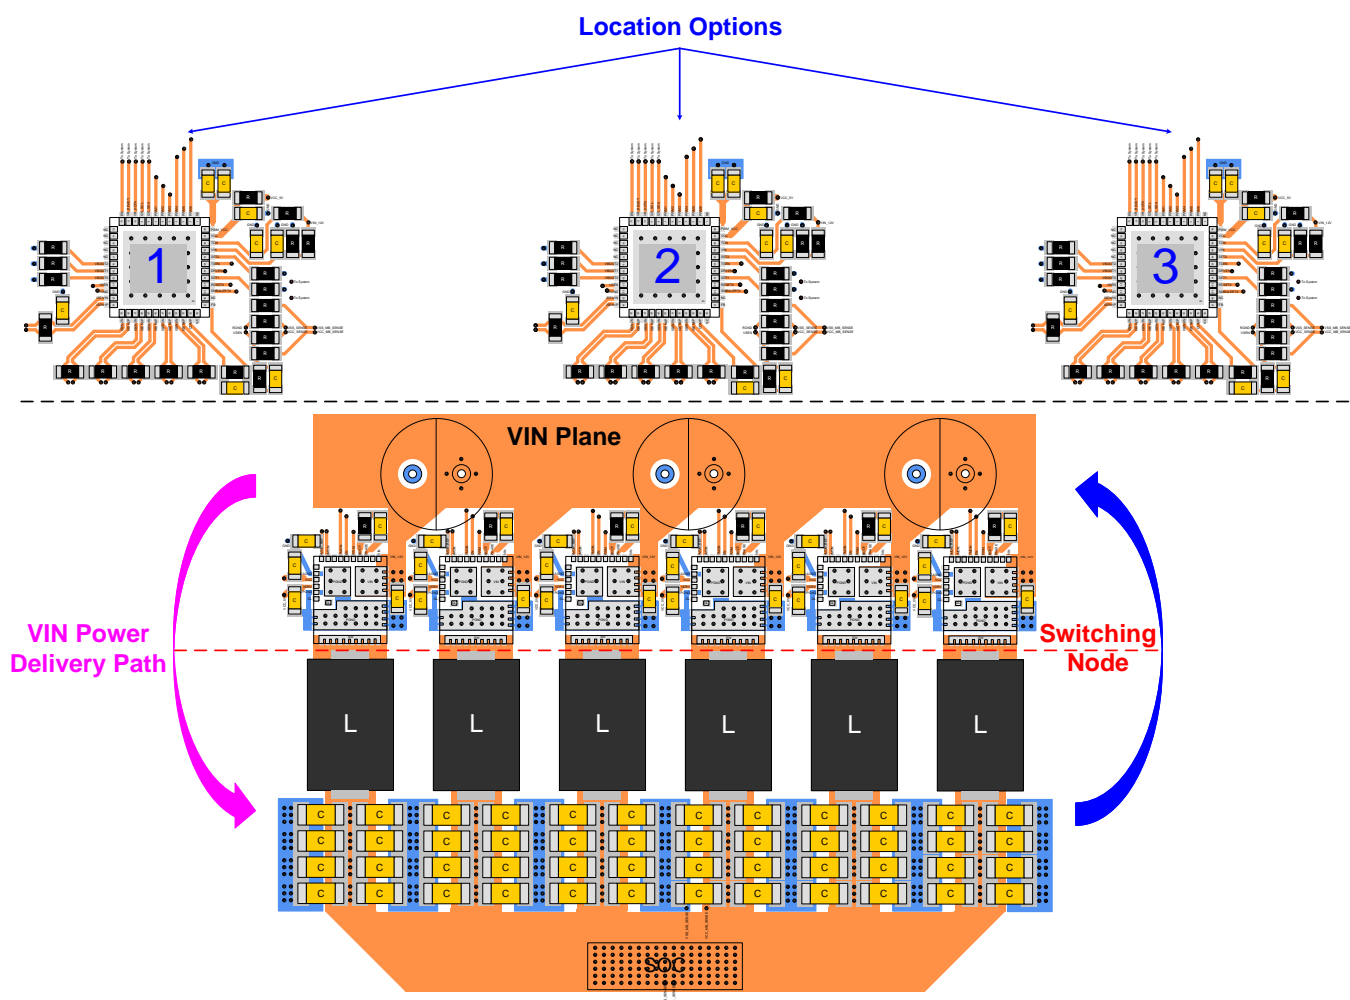

Figure 26. Controller Placement Relative to Power Stages
- ▶ As shown in Figure 26, there are three location options for the controller and its peripheral circuit are recommended.